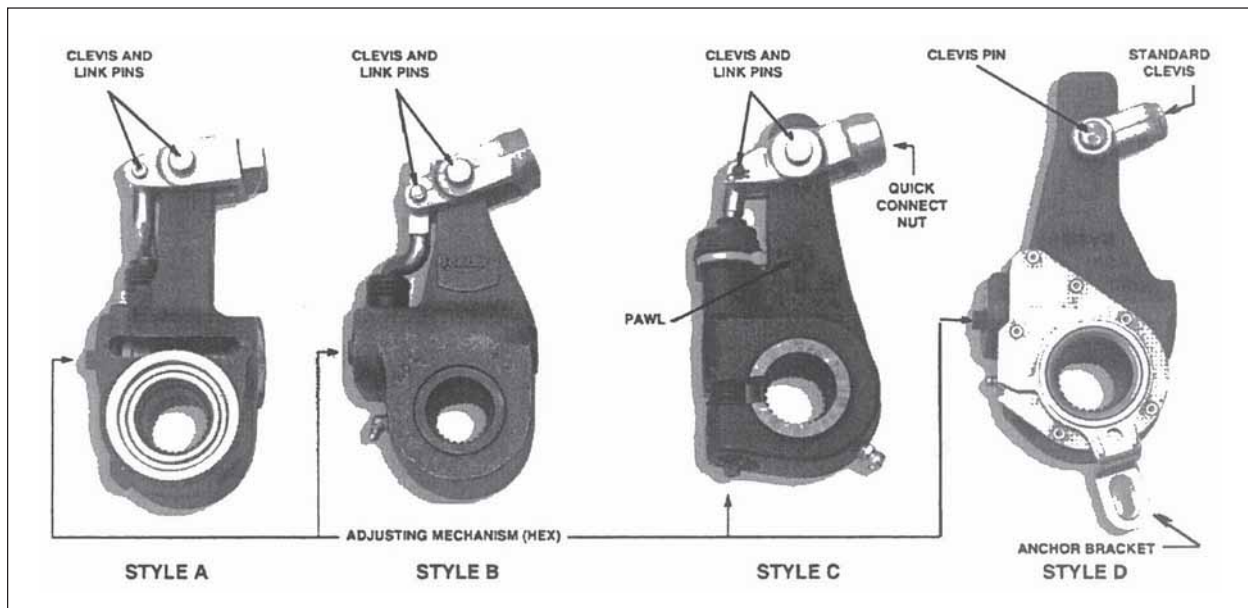

Fig. 8-27 SLACK ADJUSTER TYPES
1. Remove the pawl, then rotate the adjusting mechanism at least one complete turn as if backing off the brake adjustment (see Fig. 8-27 Style C). The pawl must be installed properly and tightened to 15 - 20 ft-lbs. after backing off the adjuster.